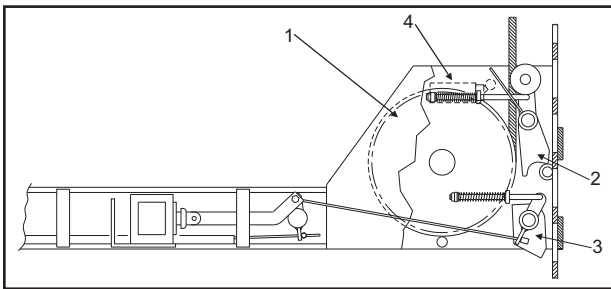

Fig.7
As shown in fig.7, the ends of the cross-pieces are fitted with the following parts:
In case of failure of the main lifting cable (fig. 7 and 8) the safety wedge (2) engages mechanically and as consequence the cable micro switch (4) disables the low voltage circuit and the parking wedge falls in to parking lock.